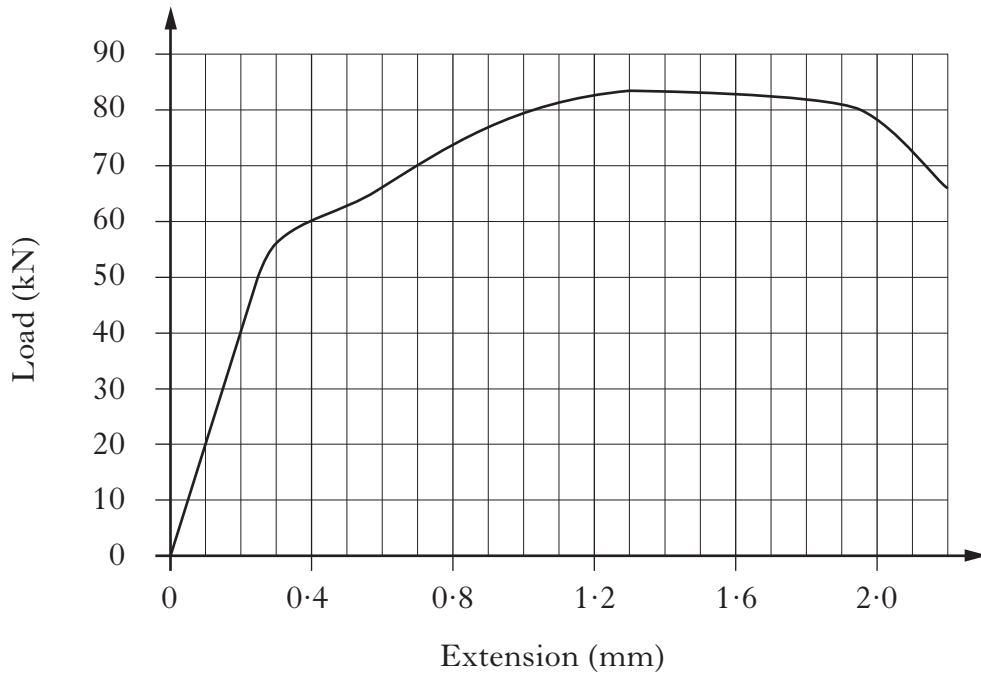

Figure Q6
6. Figure Q6 shows the load-extension graph produced during a tensile test performed on an alloy-steel specimen.